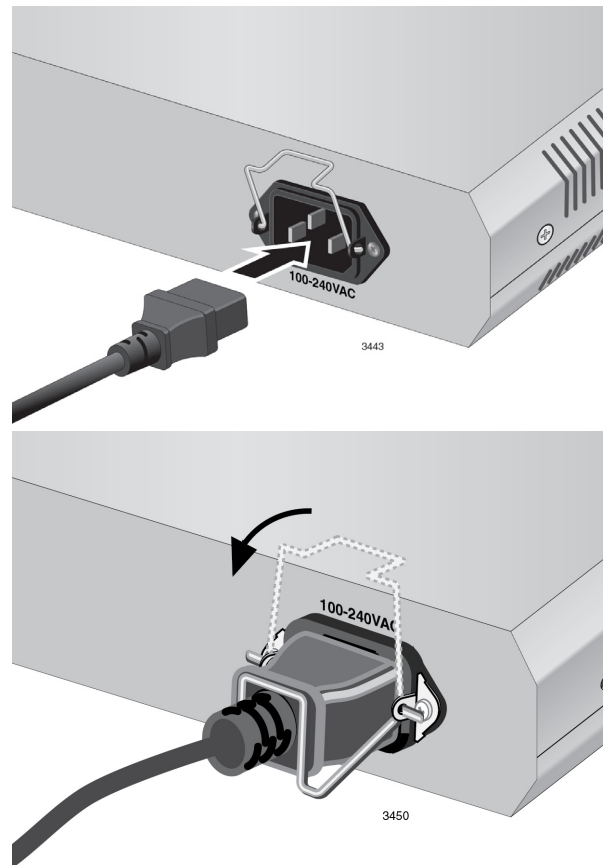

Figure 17. Plugging in the AC Power Cord
1. Lift up the retaining clip and insert the power cord into the AC power connector on the back of the switch, as shown in Figure 17.
2. Lower the retaining clip over the AC Power Cord as shown in Figure 17.